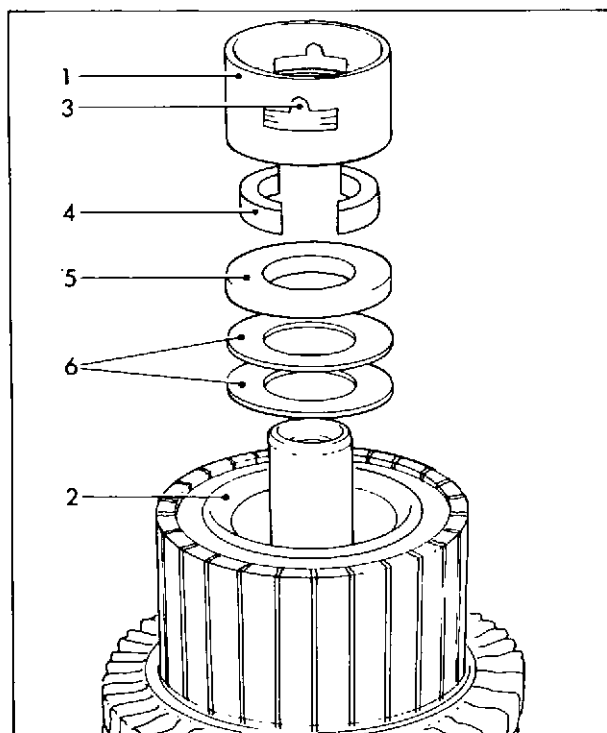
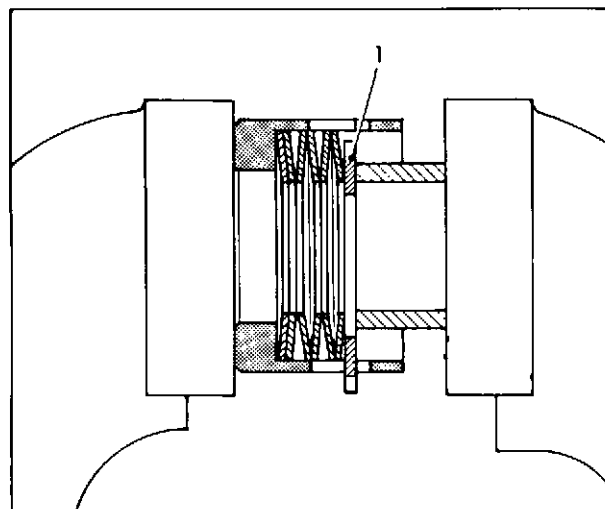

Fig. 8 Removing armature shaft
Fig. 9 Dismantling recoil unit
Armature (fig. 8 and fig. 9)
1. Lightly clamp the shaft vertically in a soft jawed vice with the commutator uppermost as shown in fig. 8.
2. Remove the recoil housing (1) from inside the commutator sleeve (2). Two holes (3) in the wall of the housing permit the use of two hooked instruments if it is tight in the sleeve.
3. Slide the two annular keys (4) outwards from the groove in the shaft.
5. Remove the two annular keys, thrust washer (5) and shims (6) from the commutator sleeve together with the thrust washer from the shaft. Retain shims and thrust washers for use on assembly, and remove the shaft from the vice.
6. To dismantle the recoil unit, compress the Belleville washers slightly in a vice using a suitable piece of tubing or rod as shown in fig. 9.
7. Tap the lock plate (1) sideways until the tongue on one side is clear of the groove in the wall. Release the pressure and lift out the lock plate and Belleville washers.